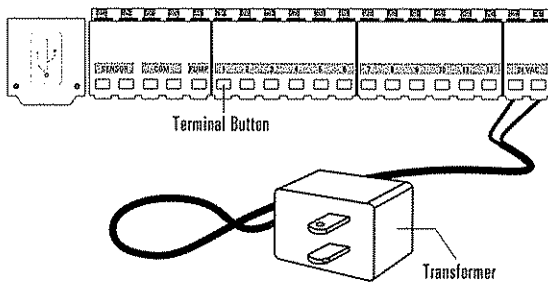

Figure 4: Connecting the Transformer
- Find the two sockets at the bottom of the docking port labeled "24VAC." (See Figure 4)